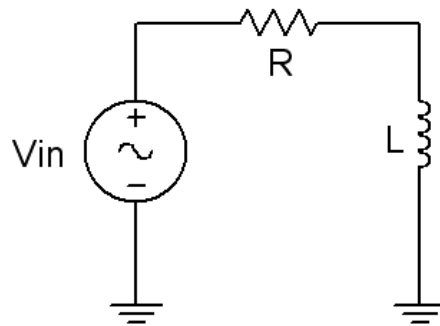

Figure 5.1
1. Using figure 5.1 with $V_{in}=10$ V p-p and $R=10$ k Ω , and assuming that the reactance of the inductor is much smaller than 10k and can be ignored, determine the circulating current using measured component values and record in Table 5.1. Also, measure the DC coil resistances of the inductors using an ohmmeter or DMM and record in Table 5.1.
2. Build the circuit of figure 5.1 using $R=10$ k Ω , and $L=10$ mH. Place one probe across the generator and another across the inductor. Set the generator to a 1000 Hz sine wave and 10 V p-p. Make sure that the *Bandwidth Limit* of the oscilloscope is engaged for both channels. This will reduce the signal noise and make for more accurate readings.